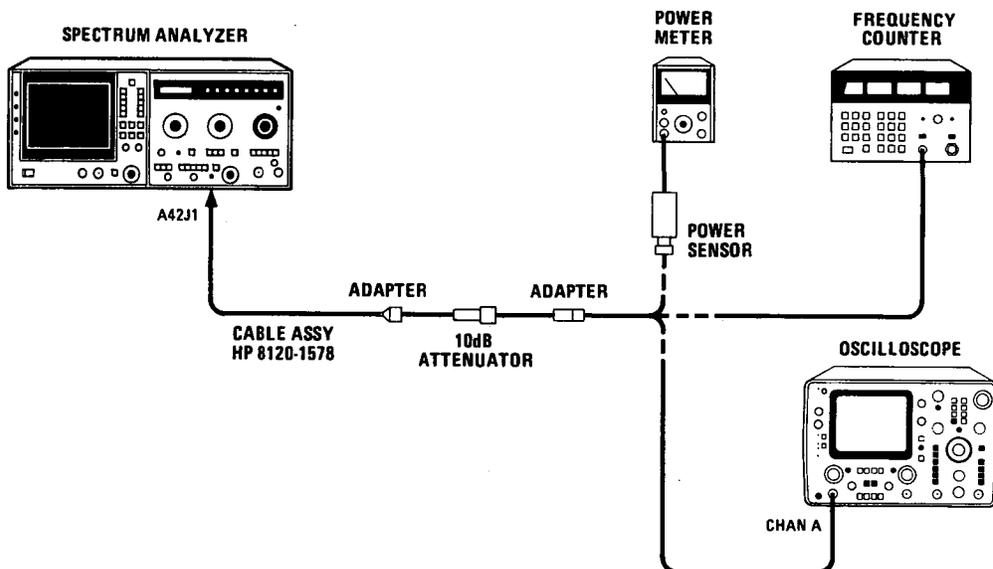
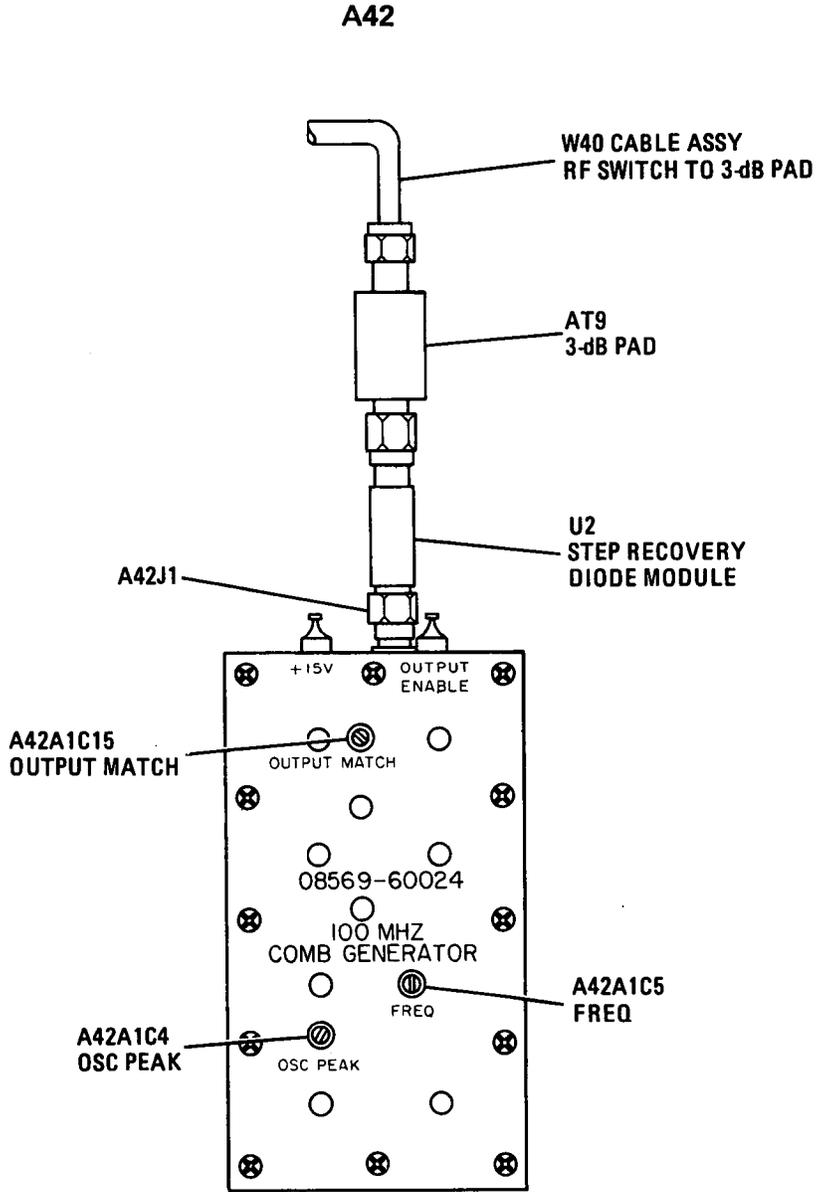

Figure 5-63. Comb Generator Adjustment Test Setup
Figure 5-64. Comb Generator Adjustment Locations
2. Connect oscilloscope as shown in Figure 5-63. Center A42A1C5 FREQ (Figure 5-64).